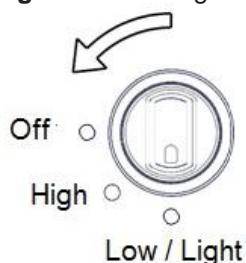

Figure 1
Situated at top of control, control knob is set correctly when appropriate symbol is alongside position indicator. (See Figure 1)
- a) Push gas control in and turn it fully anti-clockwise to "low/light" position (*Refer to Figure 1*).
When work is completed, switch fryer off (See *Figure 1*).